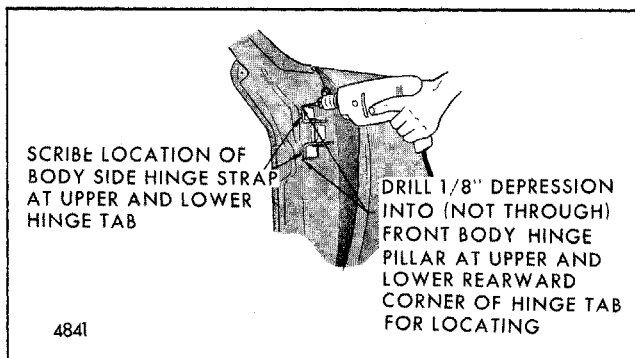

Fig. 5-93-Body Side Door Hinge Strap Removal - H Styles
2. Scribe hinge location at upper and lower hinge tab and drill indentation into (not through) hinge pillar facing with a 1/8" drill bit at the corners of the upper and lower hinge tabs as shown in Figure 5-93. Drilled depressions provide location for the replacement hinge and should not be lost during torching operation.